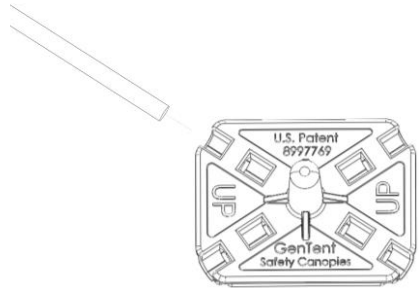

Fig. 3.1
- b. Insert the first frame rod into the central connector, ensuring it is seated all the way into the central connector. (Fig. 3.1)